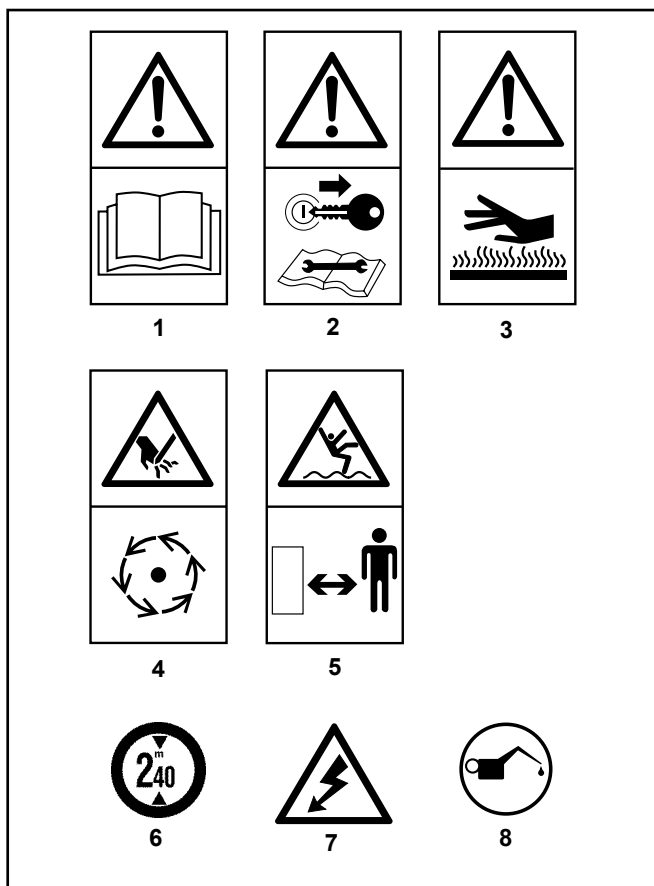

Fig. 3 - Danger signs
*Referring to Figure 3, the following text should be carefully read and memorized.*